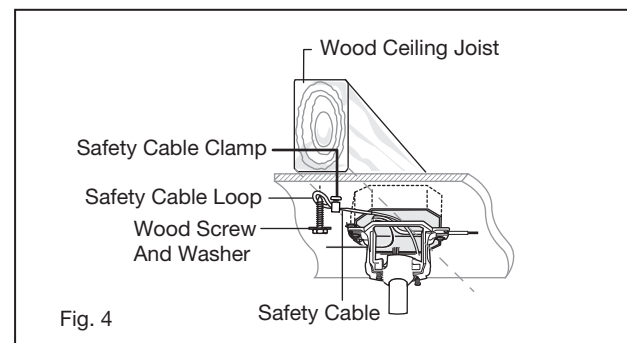

Fig. 4
- 8 Attach the canopy to the hanger bracket by inserting the keyslot openings of the canopy on the hanger bracket screws (Fig. 4), and turn the fan to the right to engage the screws in the keyslot.
**NOTE:** The tab opposite hanger bracket opening should fit in slot on ball. (Fig. 4)